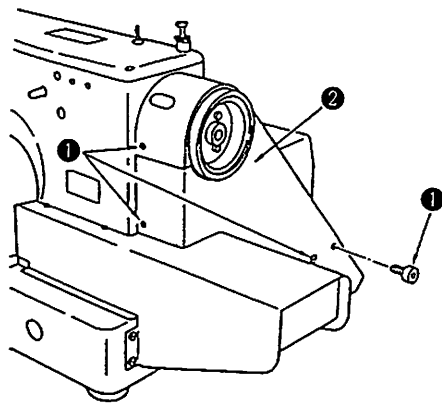
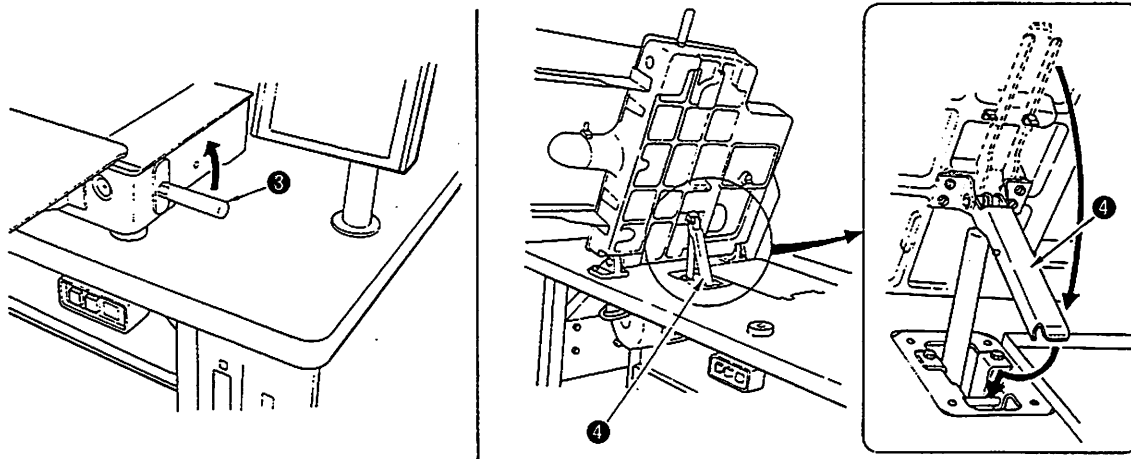
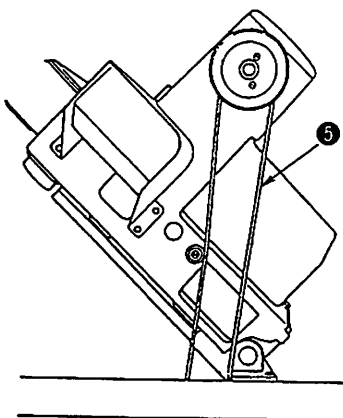

Fig. 5-38-1
Fig. 5-38-2
Fig. 5-38-3
<ol style="list-style-type: none"> 1) Remove screw ❶ and remove belt cover ❷. (Fig. 5-38-1) 2) Attach grip ❸ supplied with the machine in position, and raise it in the direction of the arrow. At this time, be sure to use stopper ❹. (Fig. 5-38-2) 3) Remove V-belt ❺. (Fig. 5-38-3)